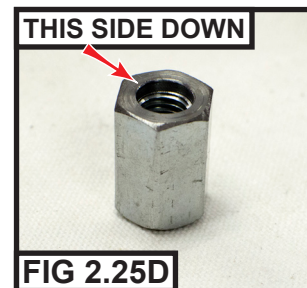

FIG 2.25D
- 12-E. Install the extension nut onto the three trimmed studs. (FIG 2.25D)